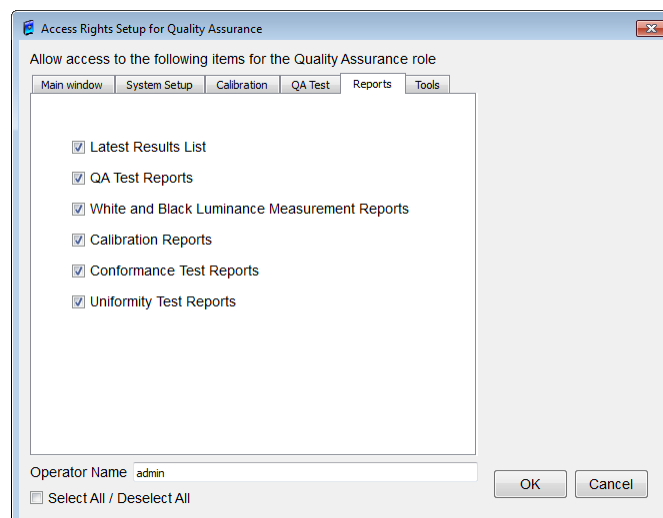

Figure 111: Access Rights Setup for Quality Assurance dialog box (Reports)
- **Reports tab (Figure 111)**